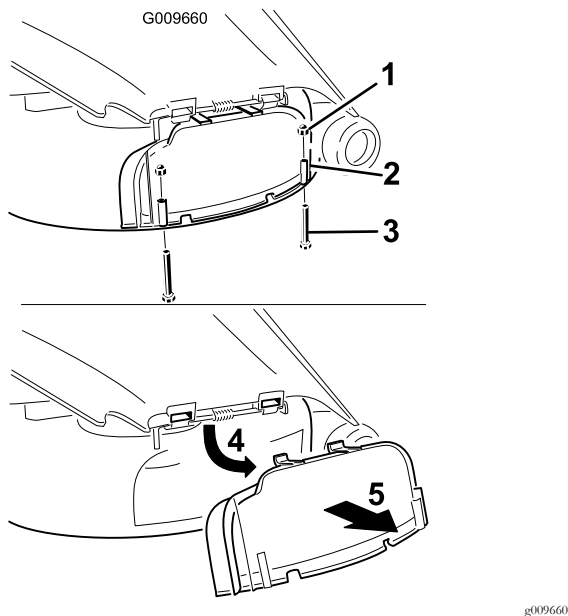

Figure 13
3. Remove the 2 bolts and nuts that secure the discharge cover to the mower (Figure 13).